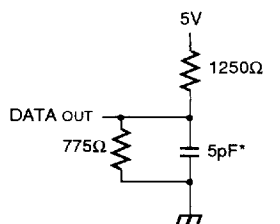

Figure 2. Output Load
1. Transition is measured  $\pm 500\text{mV}$  from low or high impedance voltage load (Figure 2).
- 1 Transition is measured  $\pm 500\text{mV}$  from low or high impedance voltage with load (Figure 2). This parameter guaranteed but not tested